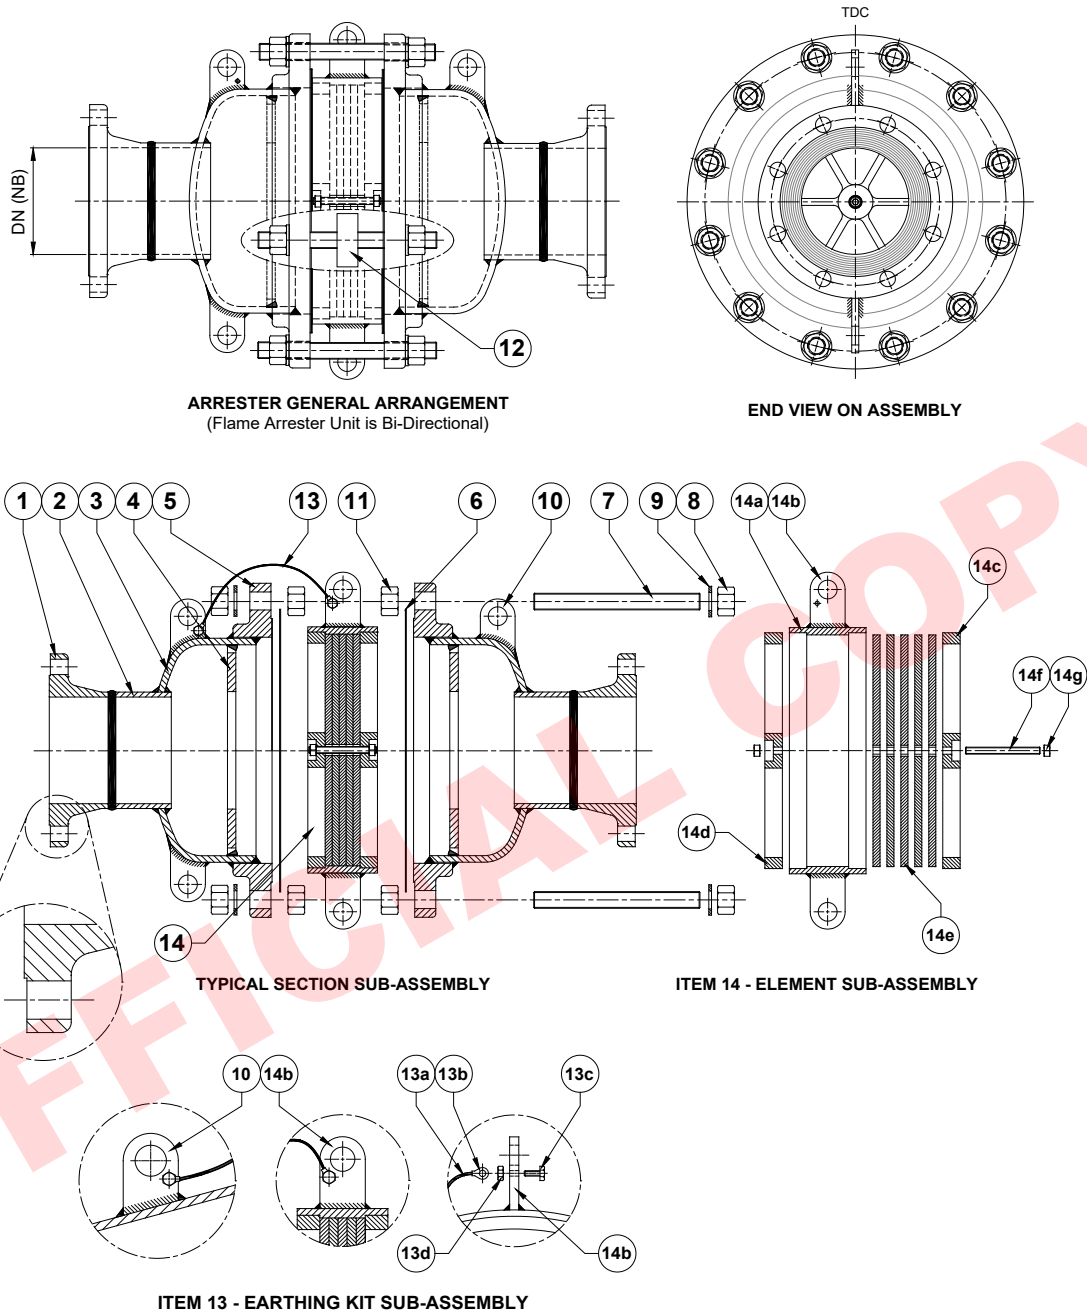

Figure 2 – Typical Section View on In-Line Flame Arrestor Assembly
Refer to Figure 2 – Section View on typical In-Line Flame Arrestor Assembly.
- Part No. 1, 2 & 3 – Concentric version shown within figure 2, Eccentric version available.
1. Always refer to Figure 2 of this document and the information on the flame arrester nameplates when installing a flame arrester.